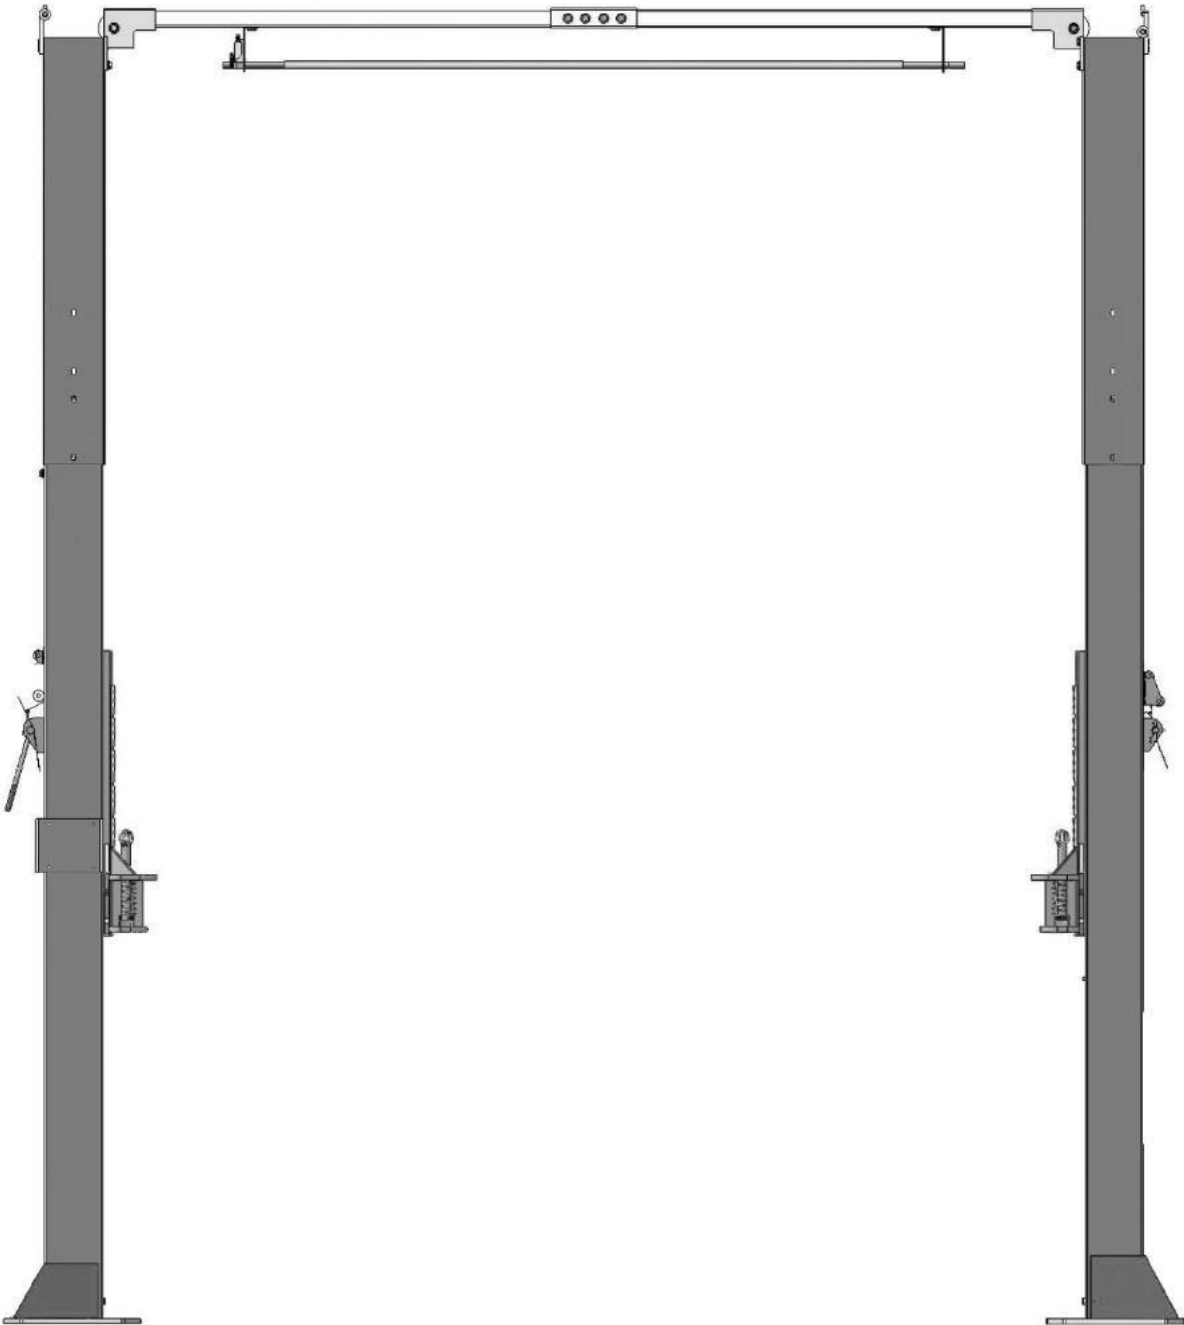

Fig. 21
J. Lift the carriages up to about one meter high by hand and make them be locked at the same level **(See Fig. 21)**.